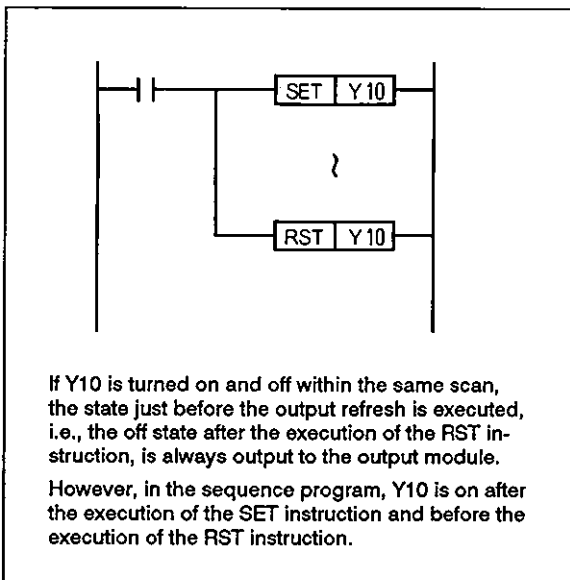

Fig. 2.3 When the SEG Instruction Is Not Used
As illustrated in Fig. 2.3, it is not possible to output pulse signals externally by turning ON/OFF the output (Y) of the same device number within one scan of operation.